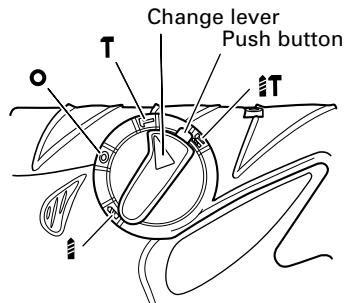

Fig. 9
This rotary hammer can be set to hammering only mode by pressing the push button and turning the change lever to **T** mark. (Fig. 9)
(3) Turn the change lever to **T** mark. (Fig. 9)